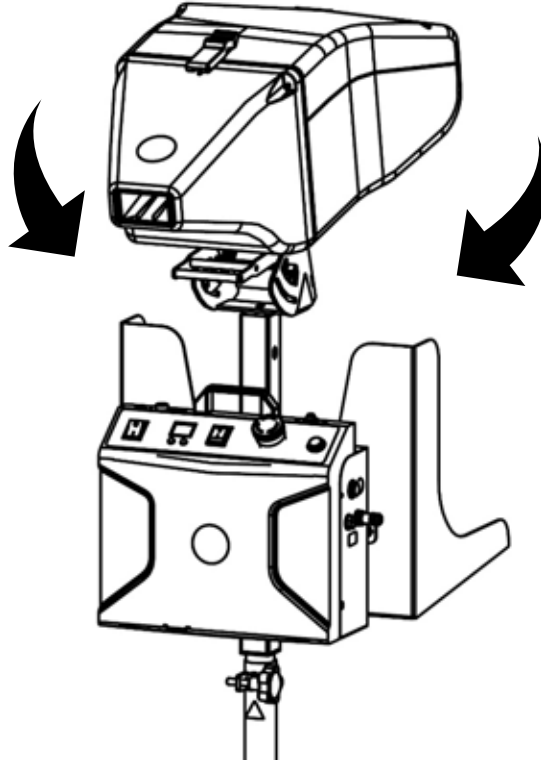

Figure 12 Output Chute Position
1. Turn the Rotational Positioning Knob three turns counterclockwise to loosen the **Dispenser** Stand Positioner. (refer to Figure 12).
2. Rotate the **Dispenser** Stand Positioner to the preferred Output Chute position (refer to Figure 12).